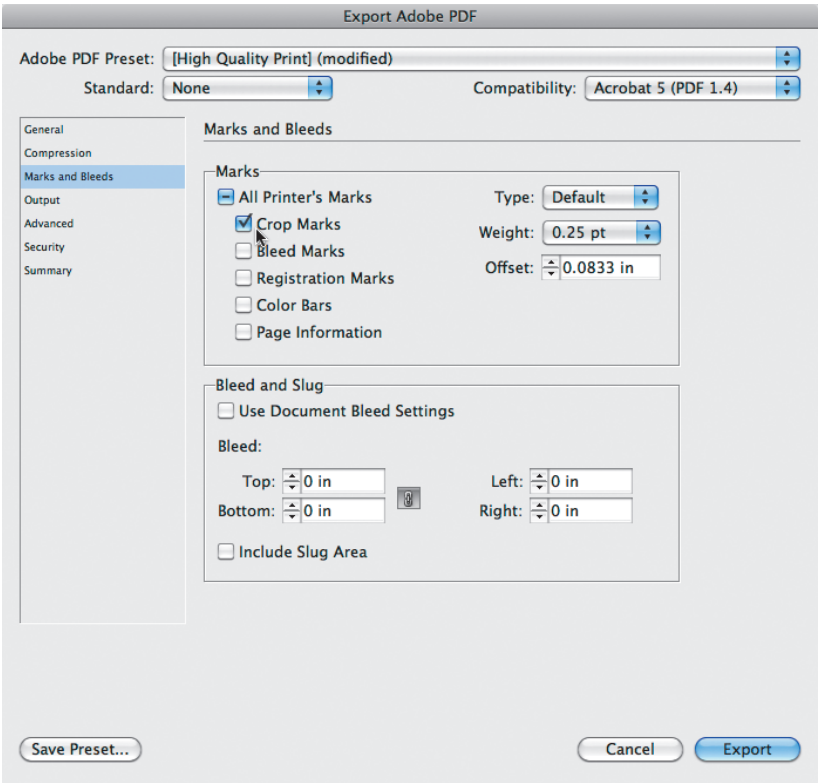

FIGURE 17.12 Add crop marks in the Export Adobe PDF dialog box.
11. Choose the File menu > Export and save a PDF (Print) of the 14-page booklet. In the PDF dialog, choose the Marks and Bleeds side menu and click the Crop Marks button (FIGURE 17.12). This will provide a guide when it's time to trim your printed pages.